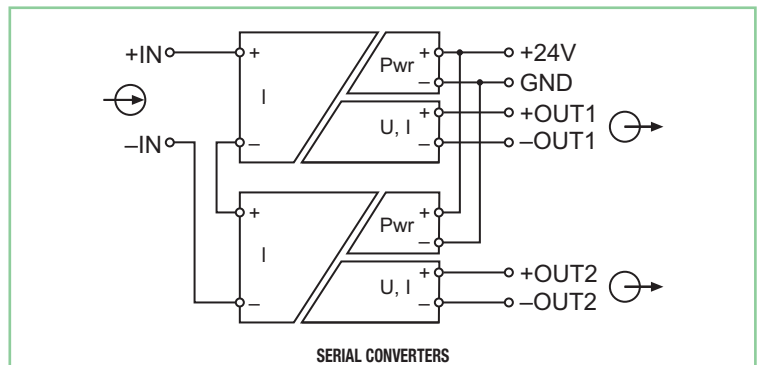

fig. 6
- In case of current signals, the input of the converters must be connected in series (Fig. 6).